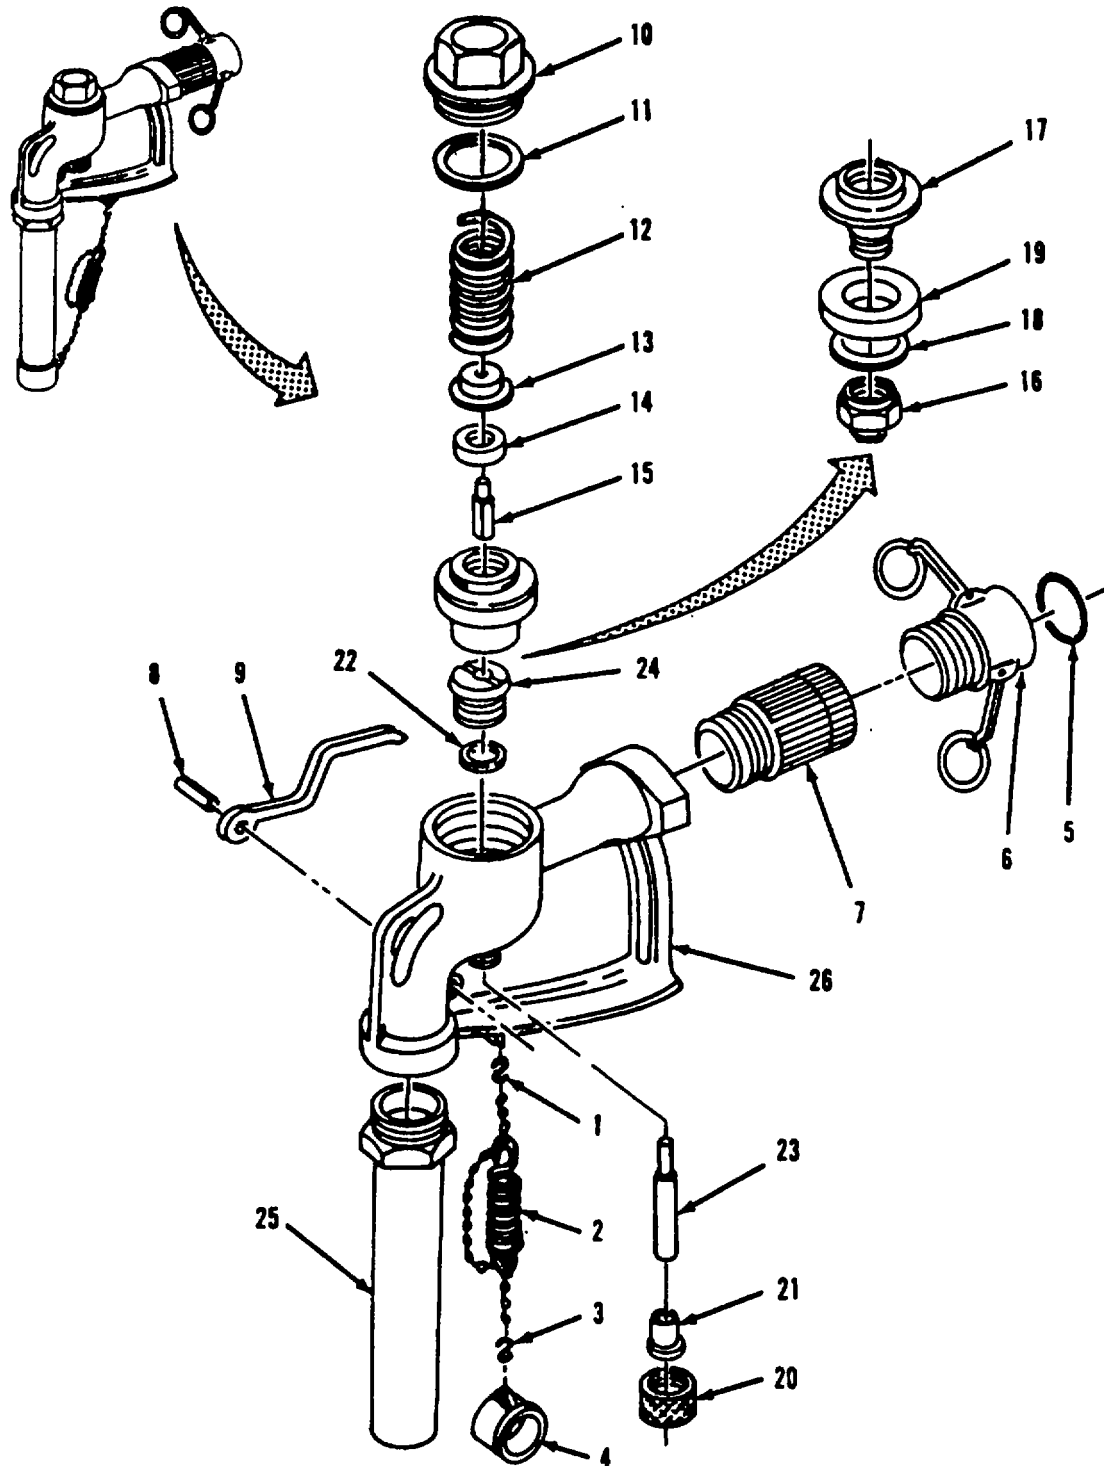

Figure 4-3. Distribution Nozzle (1 1/2-Inch) Assembly
- d. Repair. Replace damaged parts and all sealing components. Do not reuse packing (22), disc (19), small disc (14) or gasket (5).
e. Assembly. Refer to Figure 4-3.
- (1) Screw tube and adapter (25) into body (26).